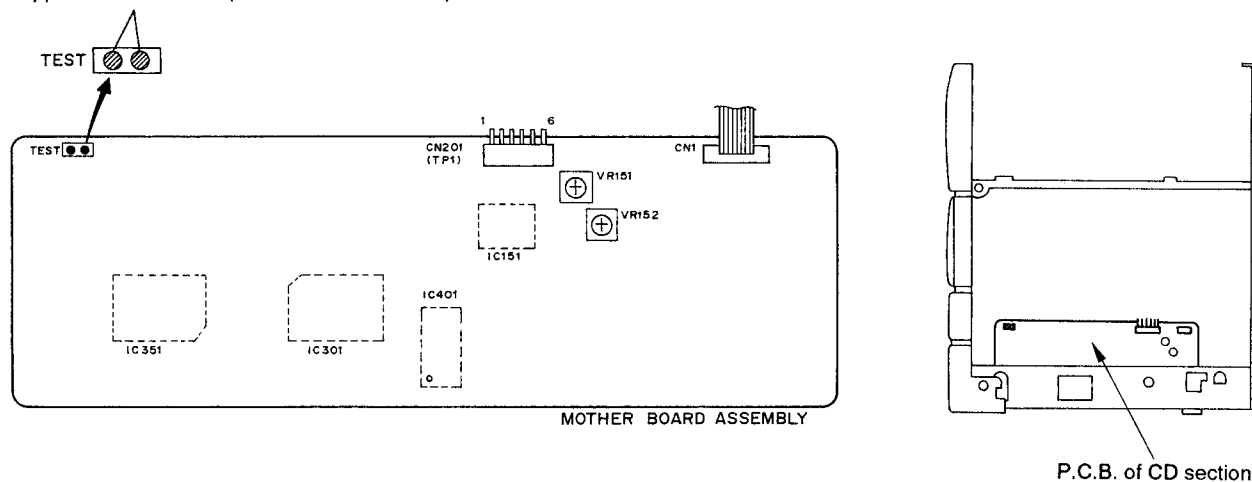

Figure 1 Adjustment Locations
2. Short the test mode copper-leaf section. (See Figure 1.)